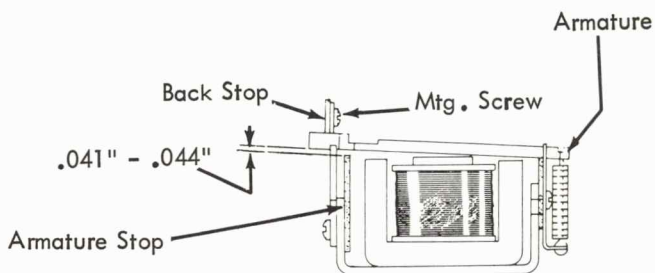

FIGURE 13. Armature Backstop
5. Back Stop (Fig. 13) - Position vertically (with armatures at rest) for a clearance of .041" to .044" between the armature stop and armatures. Measure clearance at the outside armatures (T2 & R5).